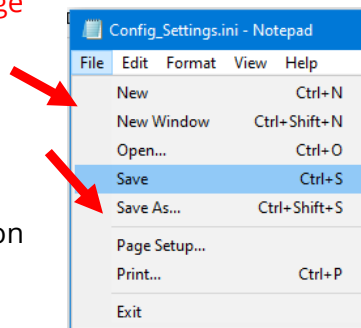

Figure 3
6. When finished, Click on File and Save (see Figure 3). The file name **MUST** be **Config\_Settings.ini**.